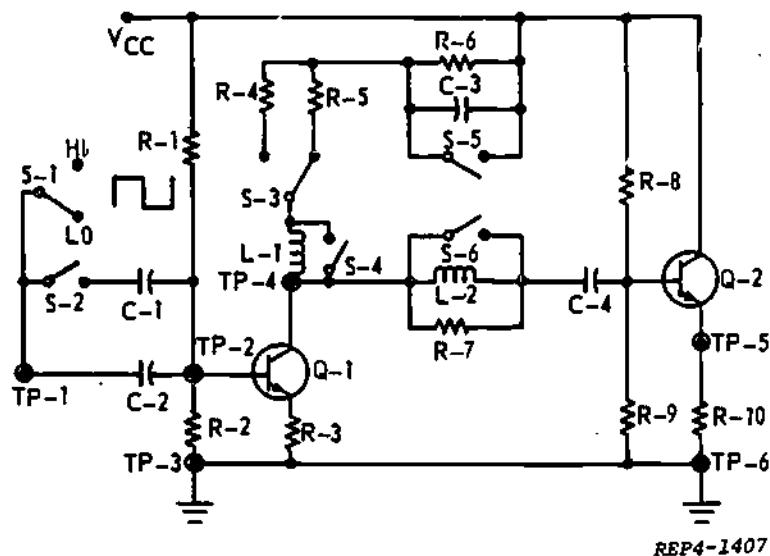

Figure 10. Video Amplifier Trainer
- a. The wideband amplifier trainer schematic diagram is shown in figure 10.